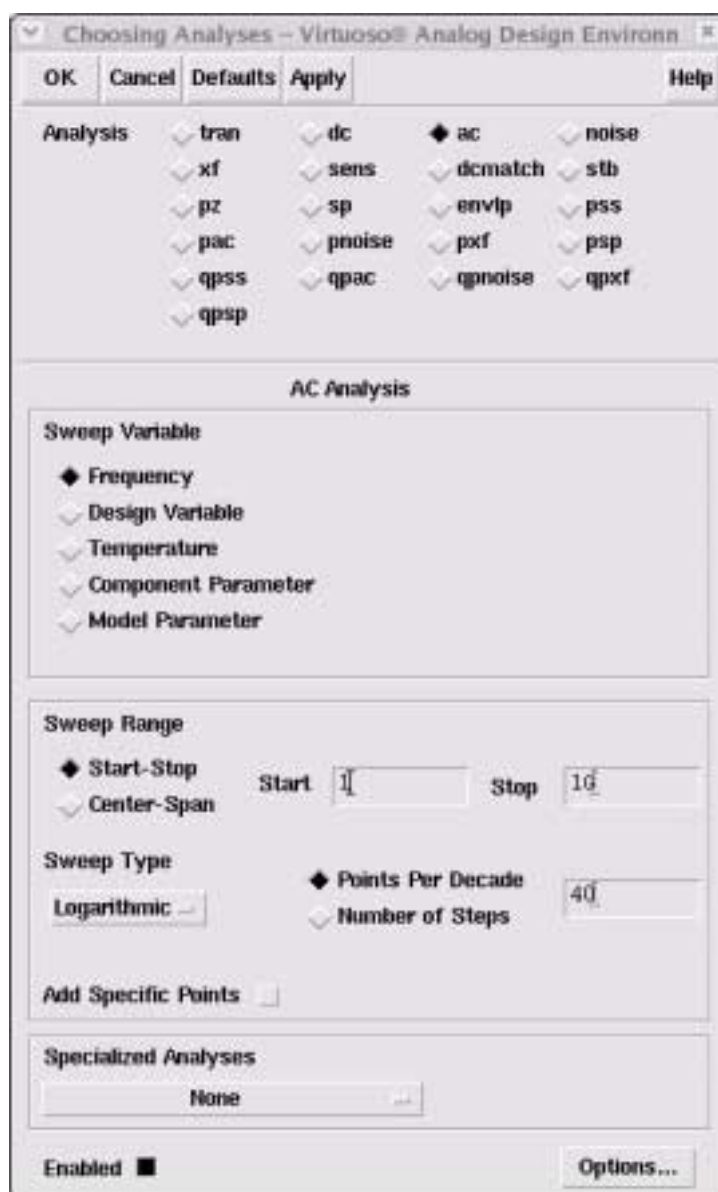

Figure 20: AC Analysis window
- [3] *Select ADE/Analyses/Choose.. In the Choosing Analyses window click on AC and set the options as shown in Figure 20 (Note the Stop frequency is 1G).*